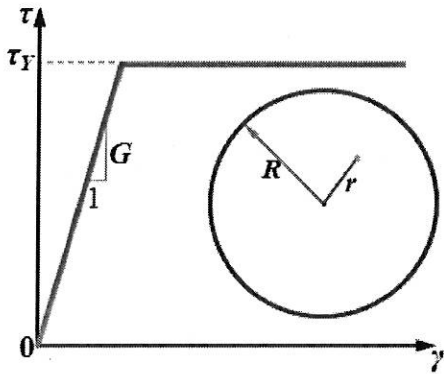

Figure 3
Q.3. A solid circular cylinder of length L and radius R with its axis aligned along z -direction is fixed at one end and the other end is subjected to torque T . Cylinder material is elastoplastic with shearing stress-strain diagram as shown in Figure 3.
- (g) Use results of (b), (c) and (e) to plot the Torque-twist (T - φ) curve for elastic-plastic solid governed by stress-strain behavior of Figure 3.